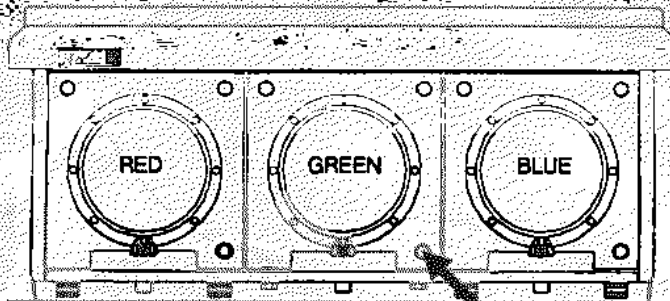

FIGURE 8-4. STEP 4.
- **STEP 4. GREEN ONLY!** Adjust the lower right lens adjustment until the upper right corner of the projected image is focused. See figure 8-4. **REPEAT.....** Steps 2 and 4 (if necessary) to achieve optimum focus in the upper and lower left corners of the projected image.